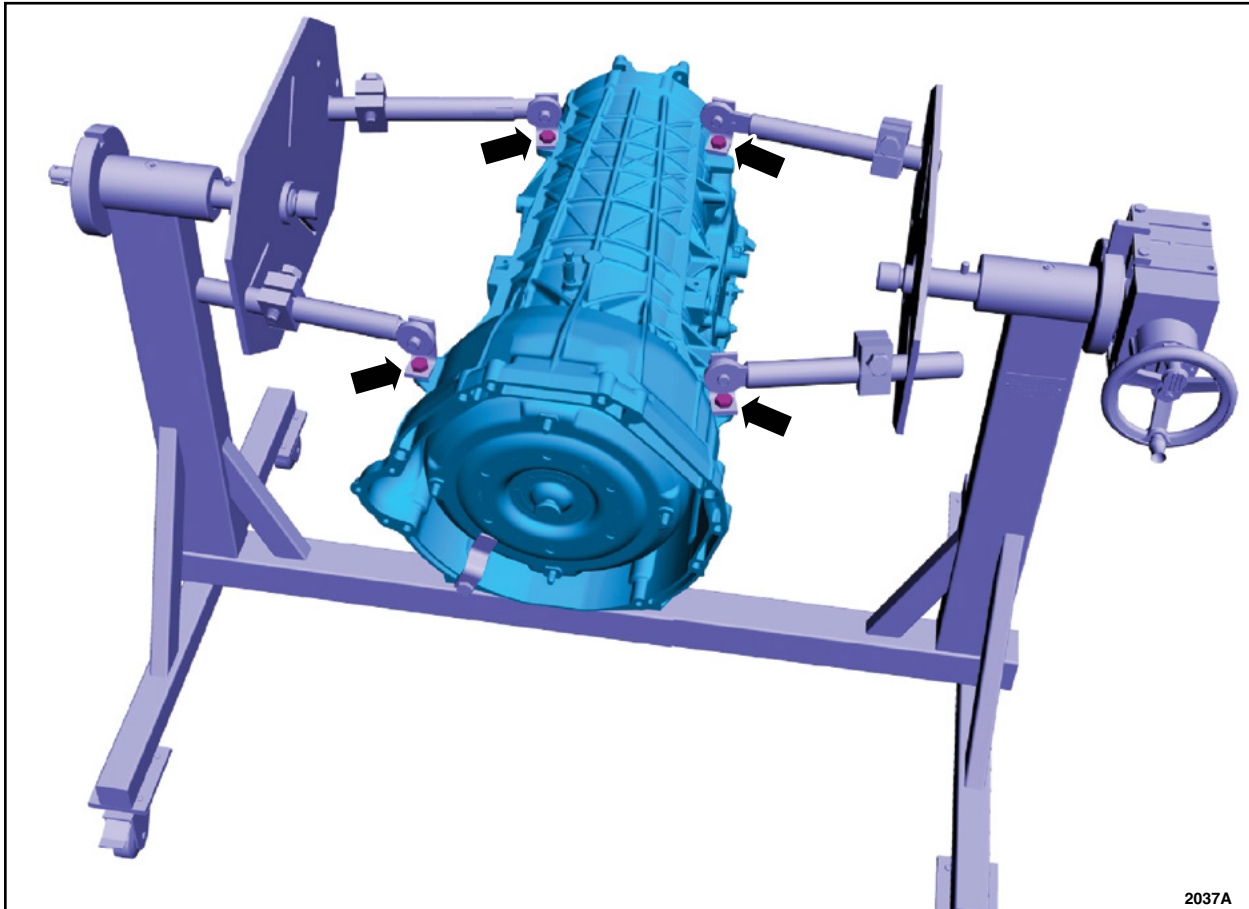

FIGURE 2
2. Place the transmission on a mounting stand. See Figure 2.